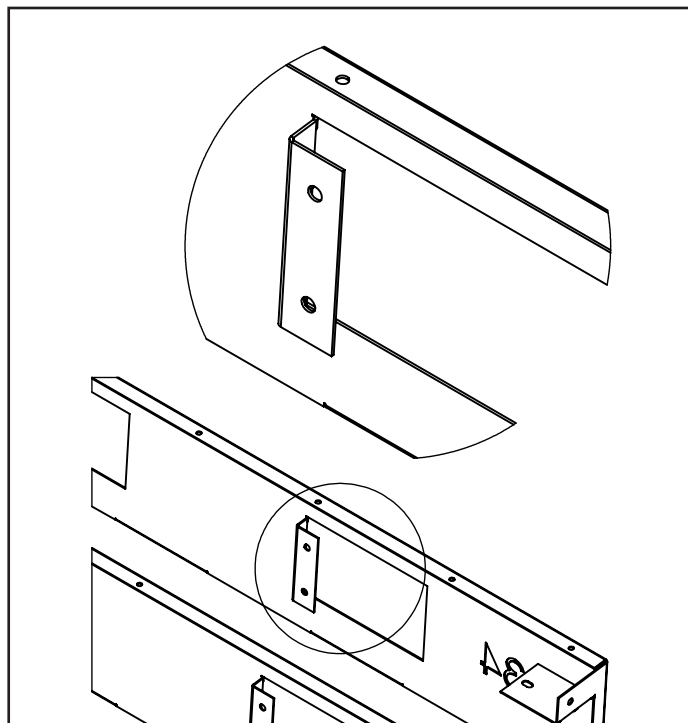

Figure 24. Rear Panel hand bent flanges
Step 4: All the middle flanges must be bent 90deg inwards towards the unit as shown below in figure 24.